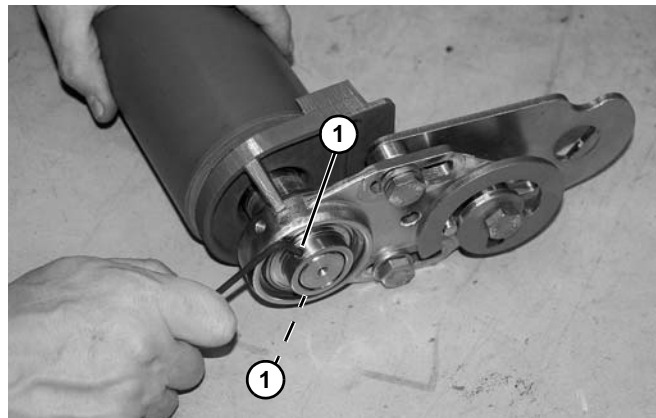

Figure 134
6. Loosen two set screws (Figure 134, item 1) on both sides.